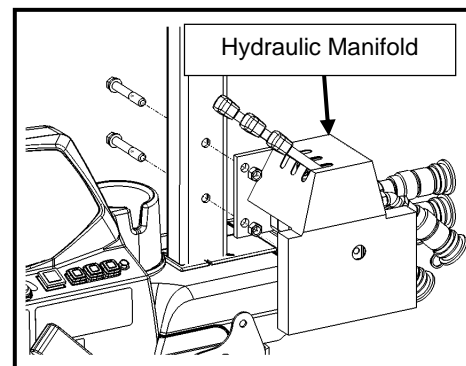

Figure 1.1: Unbolt Hydraulic Manifold
- 1.1 Unbolt valves from the ROPS (see Figure 1.1). Keep all hardware (two M12 bolts and nuts).